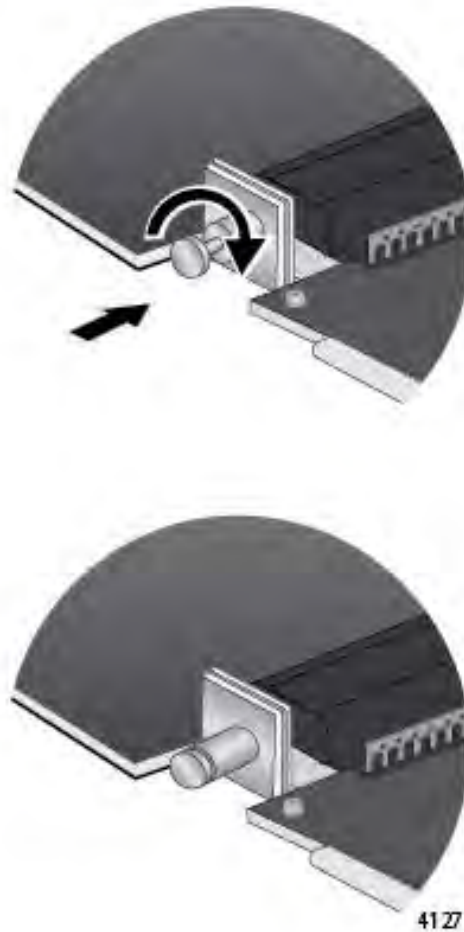

Figure 89. Releasing the Retaining Pin
11. Turn the retaining pin on the side of the line card one quarter turn to release it. Refer to Figure 89 on page 160.